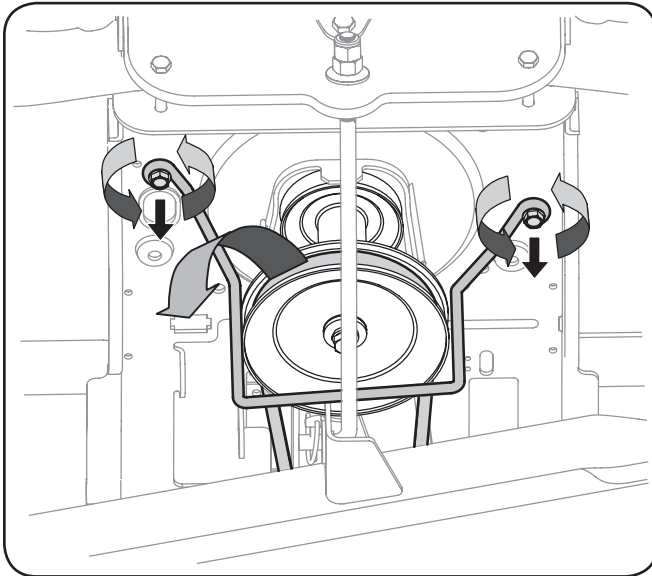

Figure 7-1
3. Locate the PTO clutch under the front of your tractor. See Fig. 7-1.
4. Remove the belt guard and belt as follows. Refer to Fig. 7-1:
12. Replace the belt guard. See Fig. 7-1.